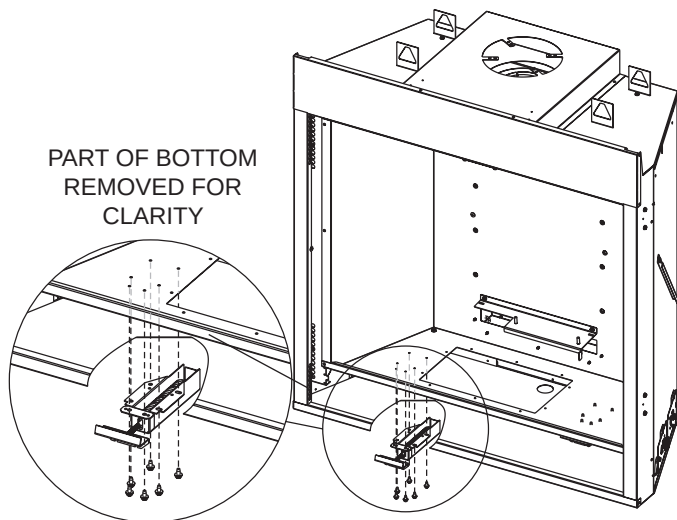

Figure 13
9. Remove the #10 X 1/2" screws securing the latch assembly to the underside of the firebox and set aside. **See Figure 13.**
12. Reinstall the latch assembly removed in step 9. **See Figure 13.**